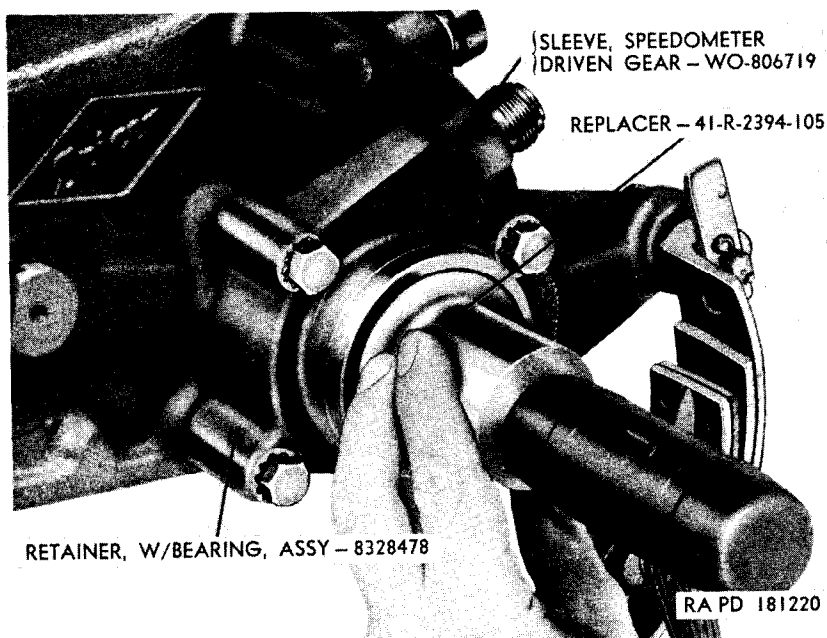

Figure 84. Installing transfer rear axle output shaft oil seal.
a. *Install Rear Axle Output Shaft Oil Seal.* Place the rear axle output shaft oil seal gasket (AG, fig. 73) in the rear axle output shaft bearing retainer. Using replacer 41-R-2394-105 install the rear axle output shaft oil seal (fig. 84).